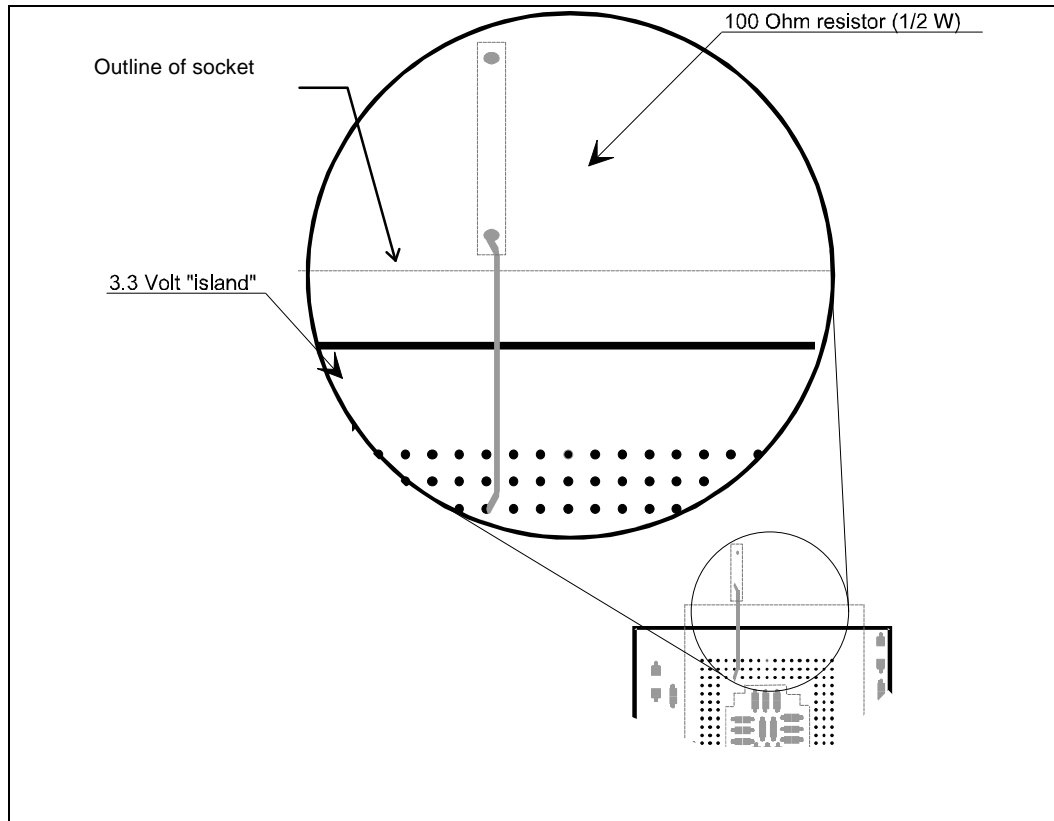

Figure 5. Possible Layout For VCC5 Pin Connection
- A 100 Ω resistor must be put in series with the VCC5 pin to limit the current through this path (Figure 5 shows a possible layout for this connection).